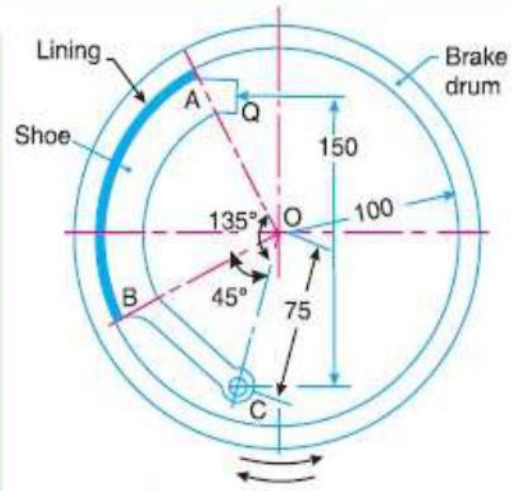

Fig. 19.26
**Example 19.13.** The arrangement of an internal expanding friction brake, in which the brake shoe is pivoted at 'C' is shown in Fig. 19.26. The distance 'CO' is 75 mm, O being the centre of the drum. The internal radius of the brake drum is 100 mm. The friction lining extends over an arc AB, such that the angle AOC is 135° and angle BOC is 45°. The brake is applied by means of a force at Q, perpendicular to the line CQ, the distance CQ being 150 mm.